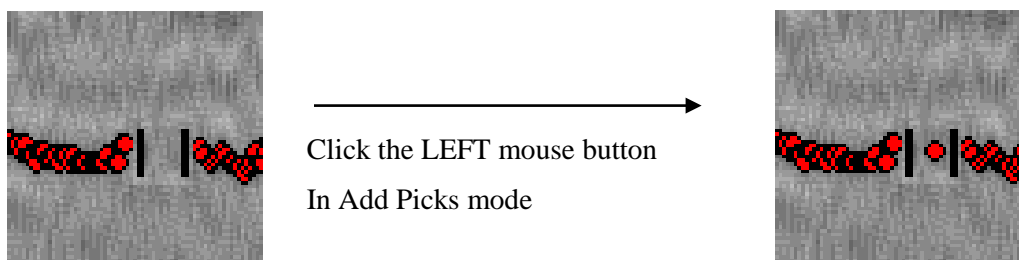

Figure 77: Example of correct mouse cursor position prior to adding a pick.
- 2** Click the left mouse button. A search will be performed on all of the scans between the left and right inside edges of the mouse cursor to locate the maximum amplitude. If the search is successful, a pick will appear on the data (Figure 77). The type of search used to locate the new pick can be customized in the Layer Options menu choice (see section on Layer Options).